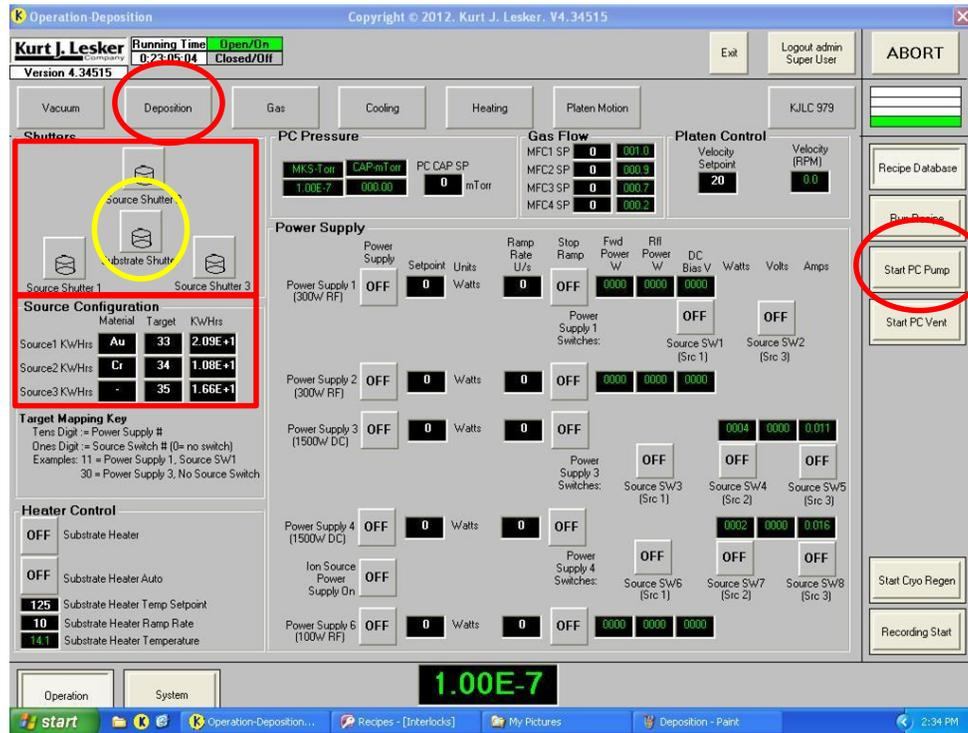
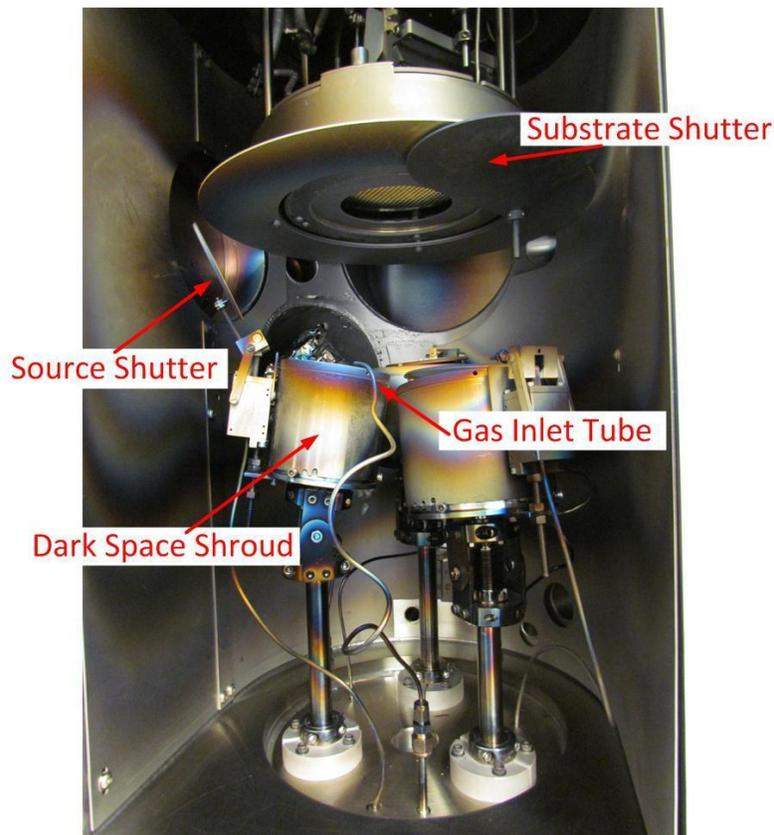

Figure 2. The deposition screen from the PVD 75.
Figure 3. The interior of the vacuum chamber for loading targets and substrates.
1. Once vented, select the **Deposition** tab in the upper left corner, Figure 2.
3. Change the material listed in the **Source Configuration** section, Figure 2, to the target material you are loading. Select the **Material** box that corresponds to your source number and enter the name of the target material you are loading.
4. From Figure 3, remove the gas inlet tube from the dark space shroud if connected. Note: it may be helpful to have the tube connected to the shroud when doing low pressure depositions less than 5 mTorr.
5. Remove the dark space shroud around the sputter head by loosening the 3 screws around the base of the sputter head, Figure 3.
7. Place the new target onto the selected sputter head and replace the target holder ring (3 screws). For 1/4" targets use (2) additional spacer rings. For 1/8" thick targets use (1) ring and the 1/16" thick target uses no rings.
10. Press the corresponding **Source Shutter** button, Figure 2, to close the shutter over the target.
11. Press the **Substrate Shutter** button (yellow circle), Figure 2, and remove the substrate access panel, Figure 3.
14. Close the chamber door and press the **Start PC Pump** button, Figure 2.